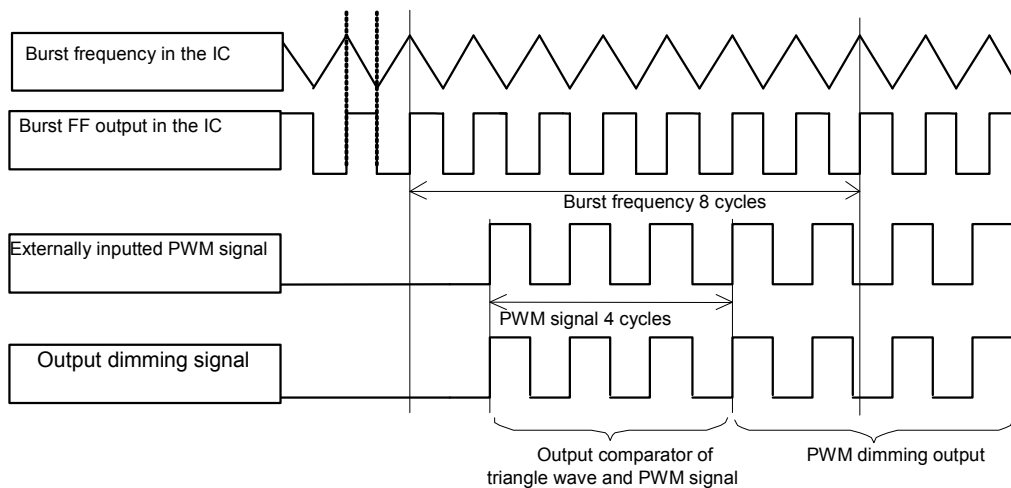

Figure 15.
- 11.) This IC is a monolithic IC, and between each element there is a P+ isolation and P substrate for element separation. There is a P-N junction formed between this P-layer and each element's N-layer, which makes up various parasitic elements. For example, when resistance and transistor are connected with a terminal as in figure 15: